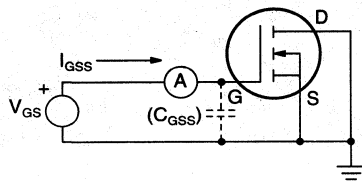

Figure 4: N-Channel I_{dss} Measurement
- B. I_{GSS} – The gate to body leakage current. It is measured with drain and source at ground, and gate biased to specified voltage. NOTE: Due to input capacitance, large die size MOSFETs may prove difficult to measure with automatic test equipment, unless a preconditioning test is performed to charge the gate capacitance prior to test. (See Figure 4 for the measurement circuit.)